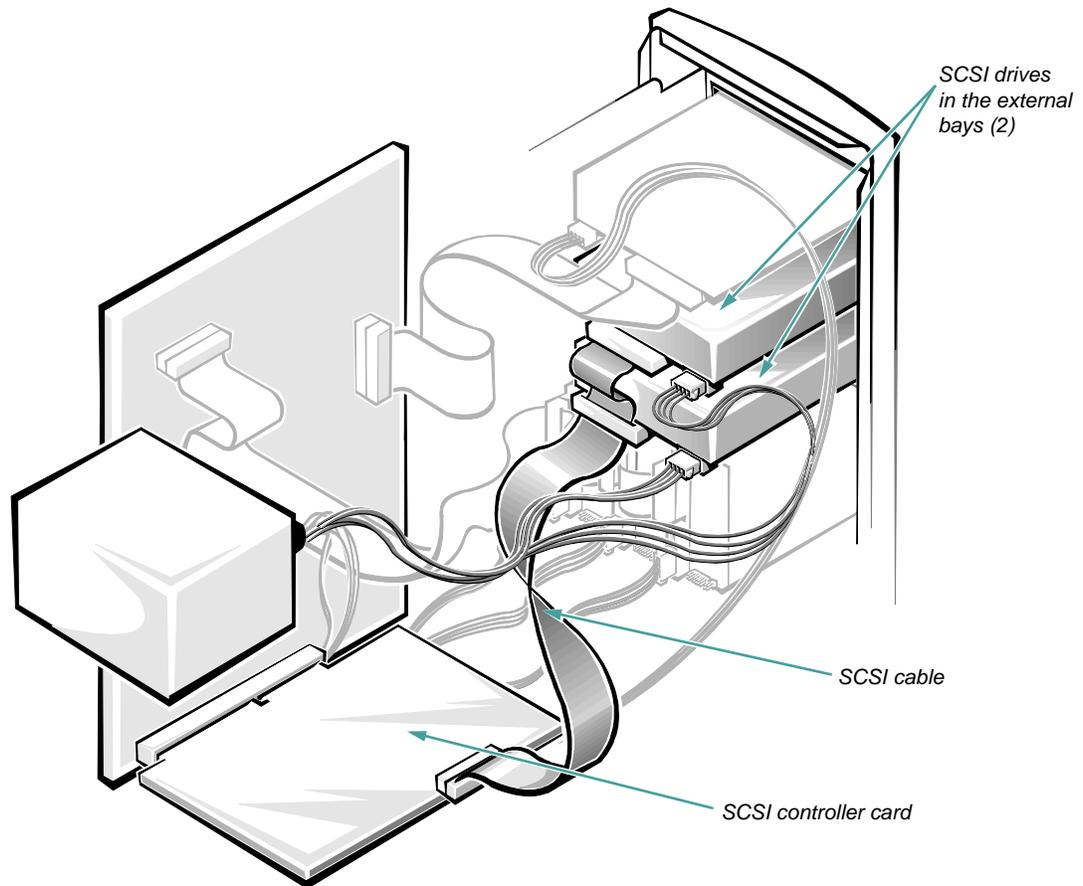

Figure 8-11. Connecting an Optional SCSI Controller Card
4. Connect one end of the interface cable that came with the SCSI controller card to the controller connector on the card (Figure 8-11).